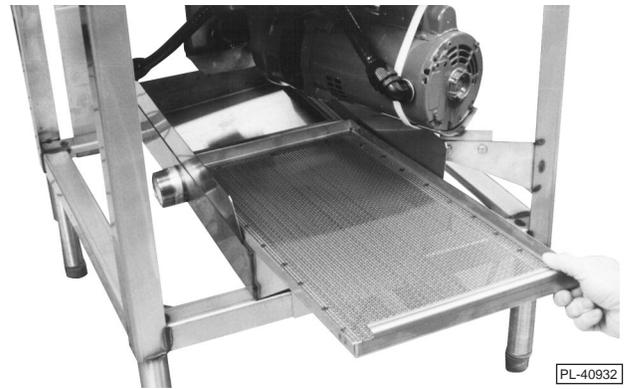

Fig. 18
5. Replace any components that were removed for cleaning. Make sure drain pan strainer is replaced with the strainer screen down and the handles at the front and back facing up (Fig. 18).